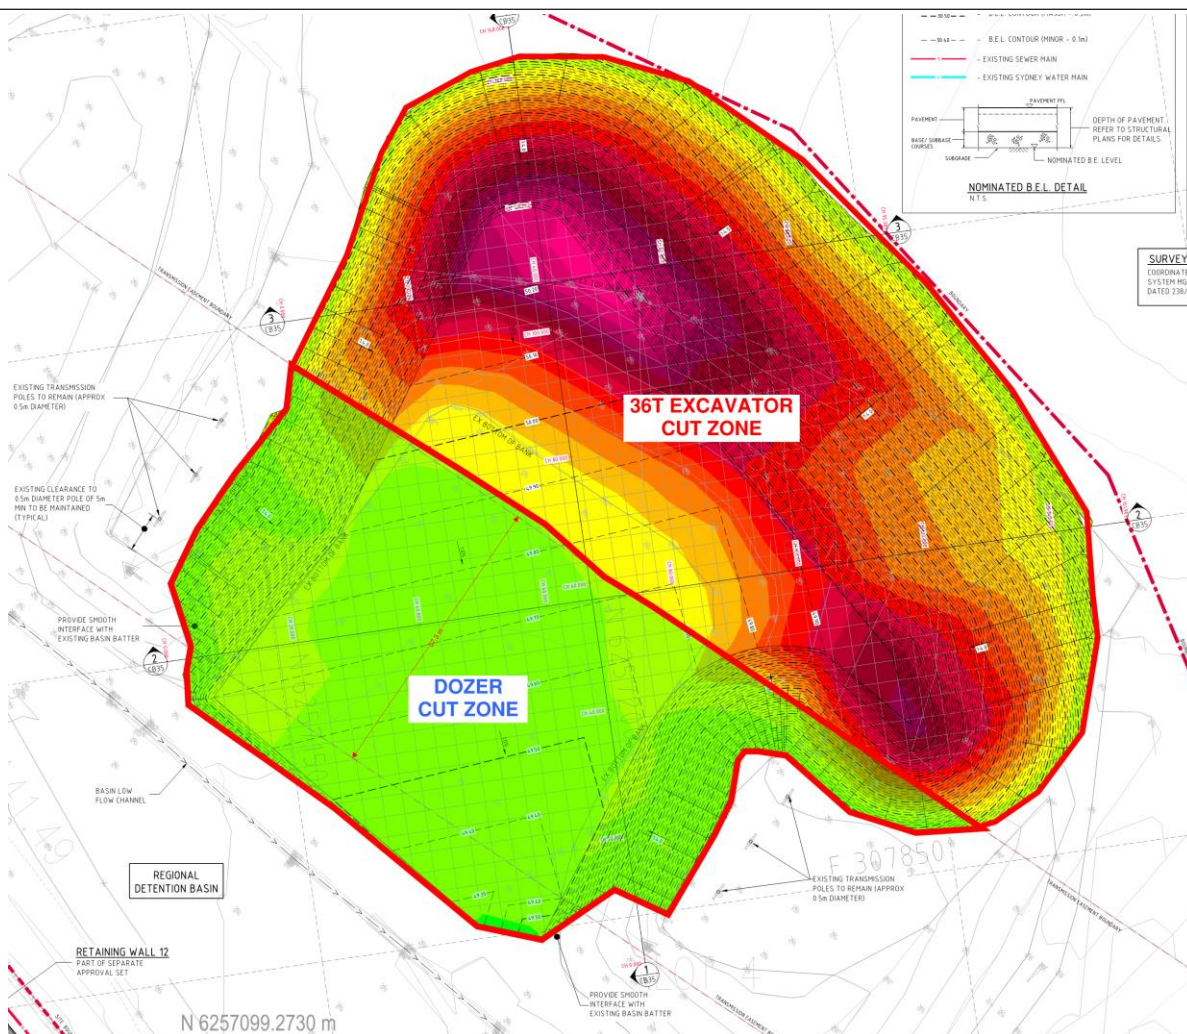

Figure 4 – Machine work zones and Over Head HV Cables
3. Due to the overhead HV Power Lines the excavation works will be split into different sections, see figure 4 below. In the easement zone excavation will be done in the shallow areas (0mm-1000mm deep) with the dozer and grader and in the deeper areas (1,000mm - plus) using a 14t-36t excavator. These works will be done with an accredited spotter when working within the easement in accordance with Table 2 from the Work Cover Code of practice for working around power lines.